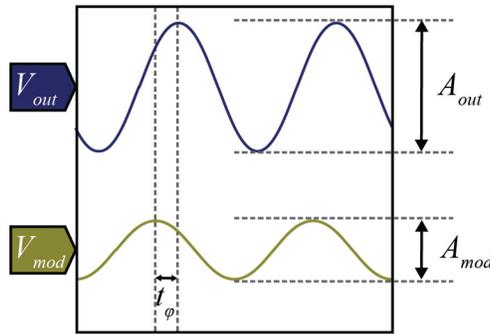

Fig. 5: Example scope waveforms with two probes measuring V_{out} and V_{mod} , with amplitudes and time differences shown.
- Using the cursors and/or measurement functions of the scope, measure the amplitude of the sinusoid on the output voltage, the amplitude of the sinusoid on V_{mod} , and the time difference between the maximum values of both (A_{out} , A_{mod} , and t_ϕ , respectively, in Fig. 5). Record these values, as well as the frequency of the perturbation that you set in the function generator.